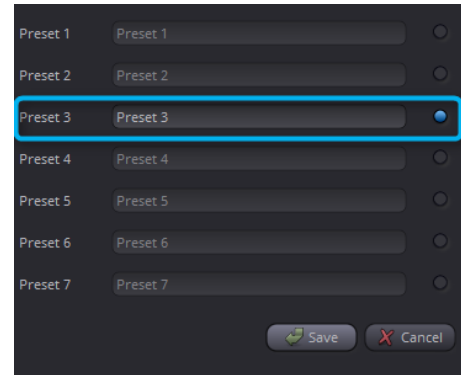

Figure 26: Saving a User Preset
1. On the “User Presets” Tab, click the button “Save To” to open the dialog shown in Figure 26